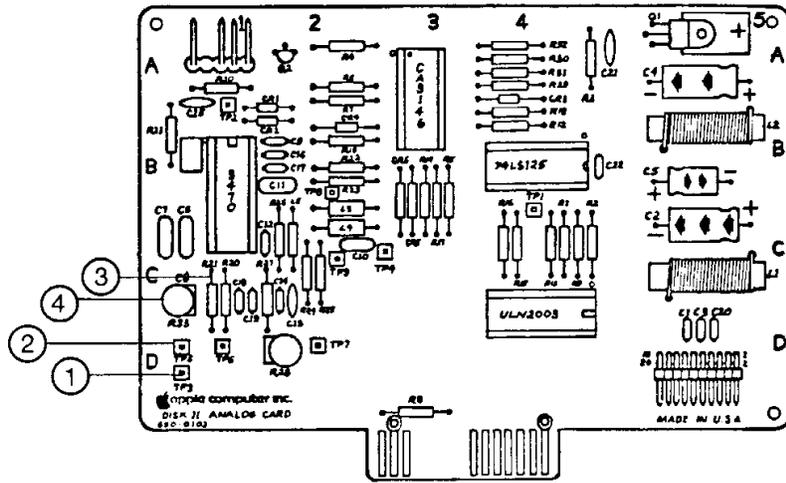
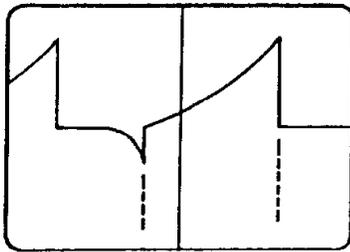
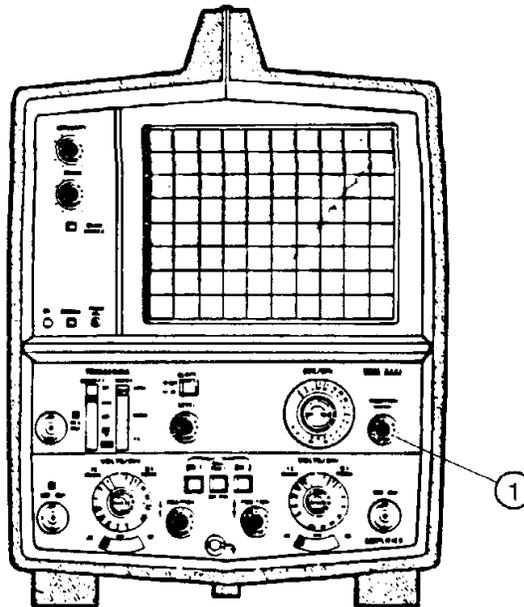

FIGURE 21
FIGURE 22
FIGURE 23
13. Clip the ground to TP3 and the scope probe to TP5. (Figure 21, #'s 1 and 2). At this point, the scope will display a negative-going pulse as shown in Figure 22. Adjust the trigger level dial for a stable display. Move the horizontal position dial (Figure 23, #1) if necessary to position the pulse in the center of the scope display. This pulse should be between 2.5 and 3.0 microseconds in width. This means the pulse width should be between 5 and 6 horizontal divisions of the grid. If the pulse width is less than 2.5 microseconds or greater than 3.0 microseconds, potentiometer R21 or R33 must be adjusted.
NOTE: On some analog boards R21 is a potentiometer and can be adjusted. On other analog boards R21 is a fixed resistor and potentiometer R33 is used for the adjustment (Figure 21, #'s 3 and 4). There are also certain analog boards that contain no potentiometers that can be adjusted. If an adjustment on the disk drive is necessary in this case, the board must be sent to a Level II Service Center for repair.